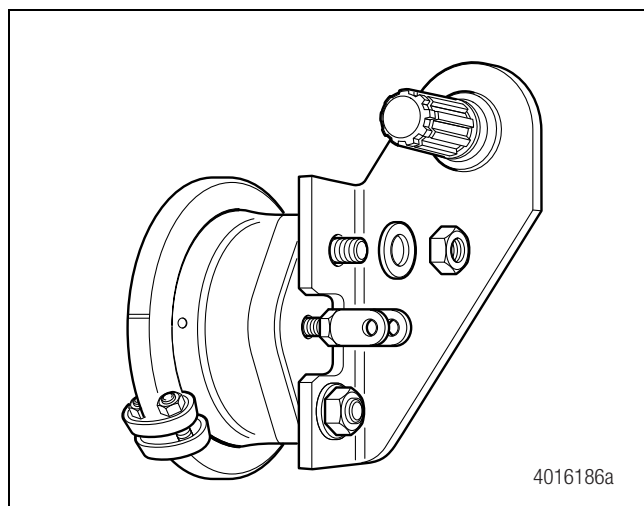
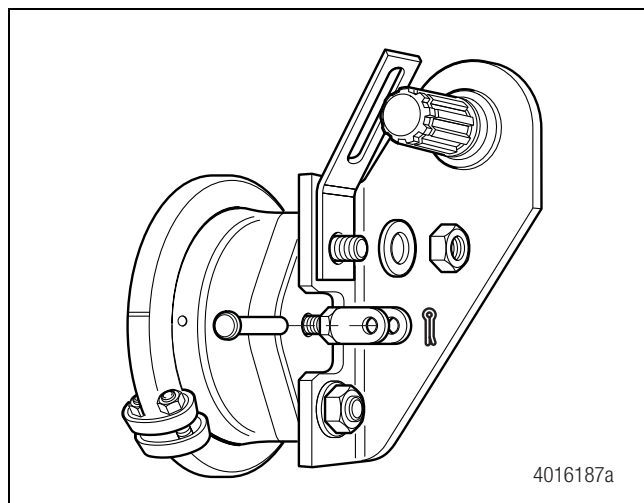

Figure 1
Figure 2
3. Remove the top nut and washer from the air chamber mounting stud. Figure 1. Install the strap bracket and reinstall the nut and washer. Figure 2.
7. Install the clevis pin into the clevis through the S-ASA and secure it. Figure 2. The pin should rotate freely when no load is applied.